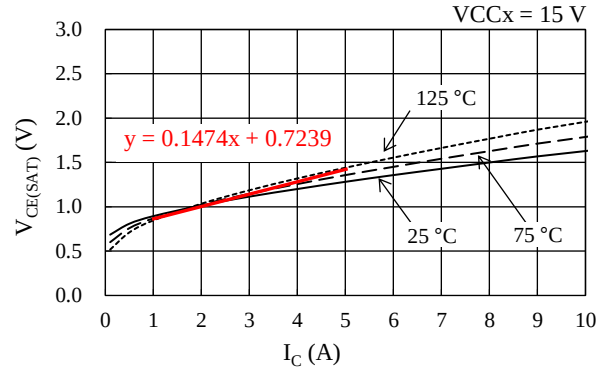

Figure 14-1. Linear Approximate Equation of $V_{CE(SAT)}$ vs. I_C
Steady-state loss in an IGBT can be computed by using the $V_{CE(SAT)}$ vs. I_C curves, listed in Section 15.2.1. As expressed by the curves in Figure 14-1, a linear approximation at a range the I_C is actually used is obtained by: $V_{CE(SAT)} = \alpha \times I_C + \beta$. The values gained by the above calculation are then applied as parameters in Equation (4), below. Hence, the equation to obtain the IGBT steady-state loss, P_{ON} , is: